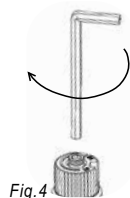

Fig. 4
- 18) Using the Allen wrench as shown in Fig. 4, rotate the screw clockwise until snug. Do not overtighten.